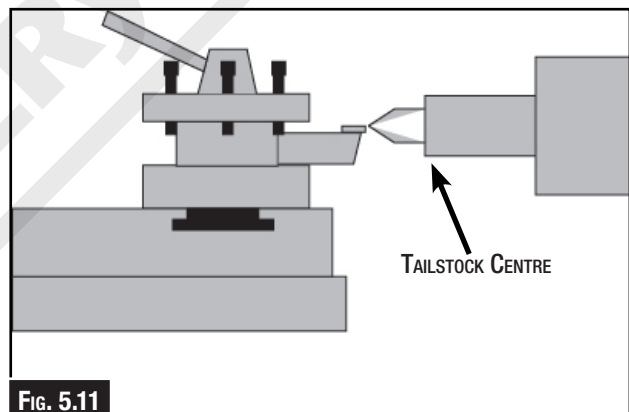

FIG. 5.11
- d. Adjust the height of the cutting tool tip to meet the center tip, as shown. (Fig. 5.11)